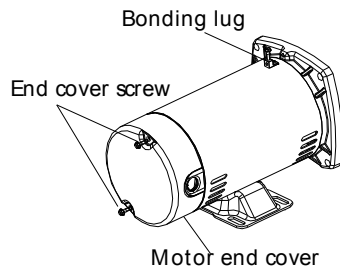
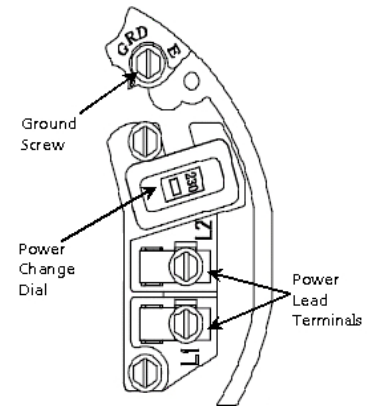

Figure 4A- Removing Motor End Cover
Figure 4B- Voltage Set to 230 Volts, Dial Type
If you have a dual-voltage motor, and will connect it to 115 volts, follow the procedure below. You will need to remove the motor end cover to change the voltage setting (see Figure 4A). Your motor terminal board (located under the motor end cover) should look like the one in Figure 4B.
2. Select the UP knob position for 115V or DOWN position for 230V, until 115 or 230 shown in the dial window (see Figure 4B).